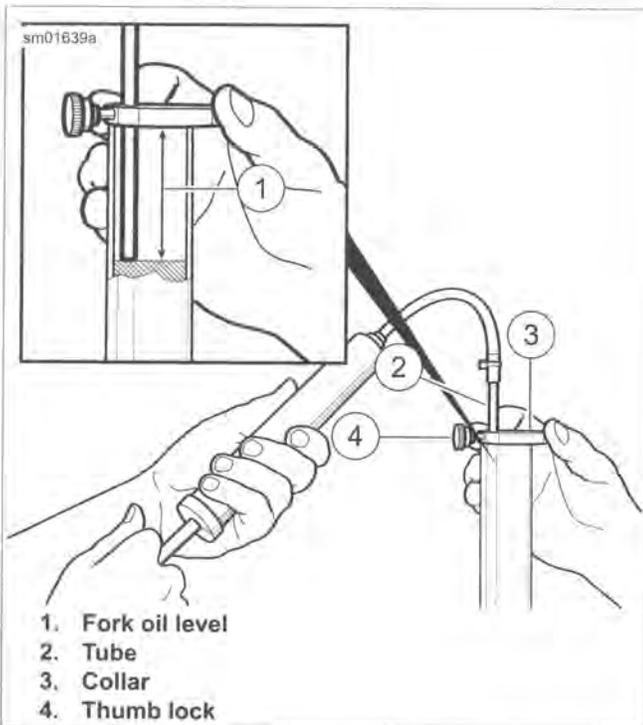

Figure 2-66. Oil Level Gauge
- See Figure 2-66. With the fork tube bottomed in the fork slider, insert tube of gauge until metal ring rests flat on top of fork tube.